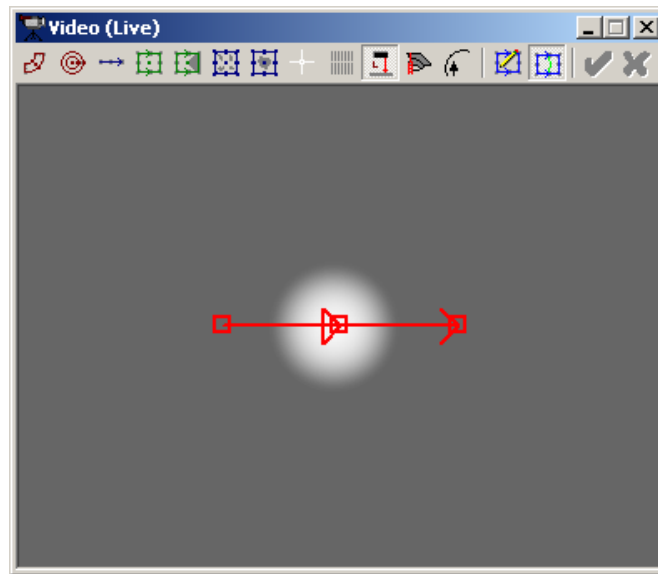

Figure B-6 Laser Spot Centered on the Laser Finder Graphic
- If the laser spot is centered on the Laser Finder graphic (see Figure B-6), go to Step 17.
15. Use a 2 mm Allen wrench and the laser push screws to center the laser spot on the Laser Finder graphic, as shown in Figure B-6.